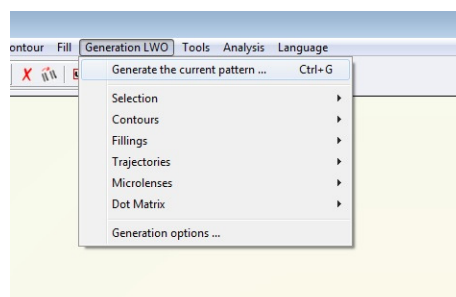

Fig 4 : Generation of the current pattern
- The “Generation LWO” menu is dedicated to the creation of lwo files. Click on **“Generation Lwo” > Generate the current pattern”** (Fig 4).